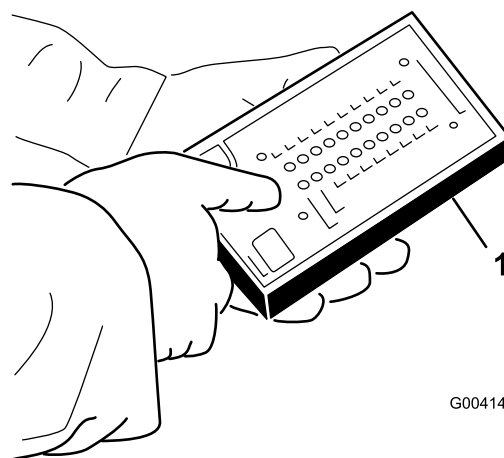

Figure 44
5. Connect the Diagnostic ACE display connector to the harness connector (Figure 44).